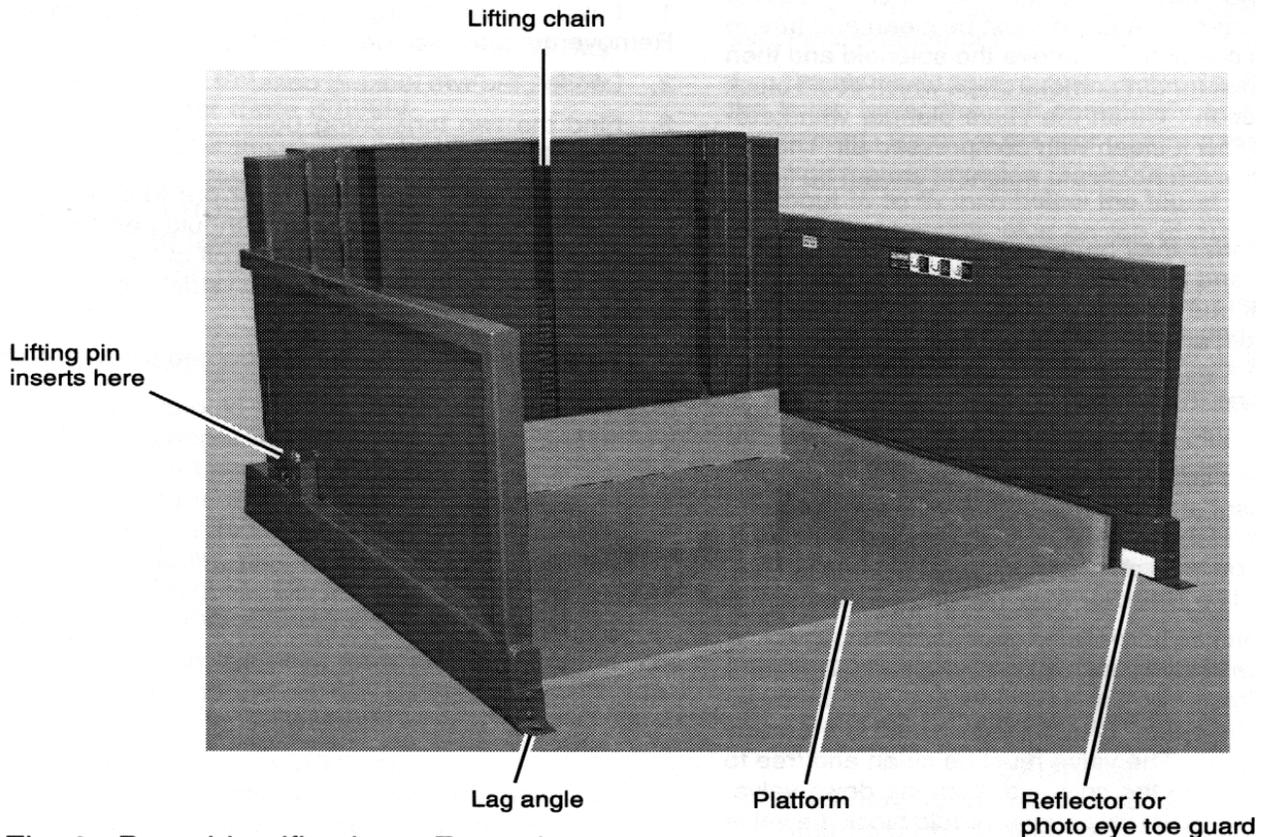

Fig. 6 Parts identification – Front view
- Do not work under the lift platform without installing the safety pins. (See Fig. 6 and the section on "Maintenance.")
This unit includes a photo eye toe guard. See Fig. 6. If something blocks the light beam, the unit will stop quickly. The control system will stop the motor and close the down valve, preventing the platform of the unit from moving down. This is designed to prevent the unit from lowering onto the operator's toes. If this safety system is not working correctly, do not operate the unit. Call a maintenance worker right away.
- You should not have to do any maintenance work with the platform raised. All normal maintenance can be done with the platform lowered. However, if you ever need to work under the platform, you must be careful to do this safely. Raise the platform until you can insert the safety pins on each side. The pins are shown in Fig. 6. Finally, unplug the power cord. **DO NOT WORK UNDER THE PLATFORM UNTIL YOU HAVE INSERTED THE PINS.** If you fail to do this, the platform may drop suddenly. You may be hurt.